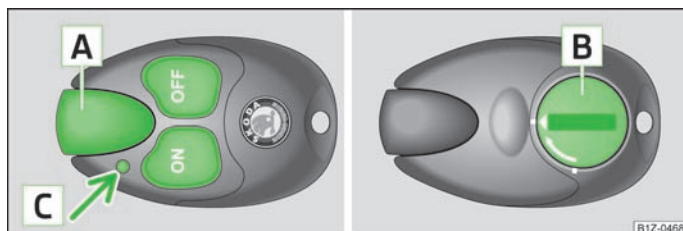

Fig. 92 Auxiliary heating: Radio remote control
- For switching on, press the button  » Fig. 92.
If the battery is properly charged, the effective range is up to 600 m. To switch on/off the auxiliary heating, hold the radio remote control vertically with the antenna  » Fig. 92 facing upwards. The antenna must not be covered with the fingers or the palm of the hand during this process. Obstacles between the radio remote control and the vehicle, bad weather conditions and a weaker battery can clearly reduce the range.
The warning light in the radio remote control **C** » Fig. 92 indicates after a key-stroke if the remote control signal was received by the auxiliary heating and if the battery is adequately charged.
If the indicator light on the radio remote control indicates a weak or discharged battery, » Fig. 92, it must be replaced. The battery is located under a cover **B** » Fig. 92 on the back of the radio remote control.